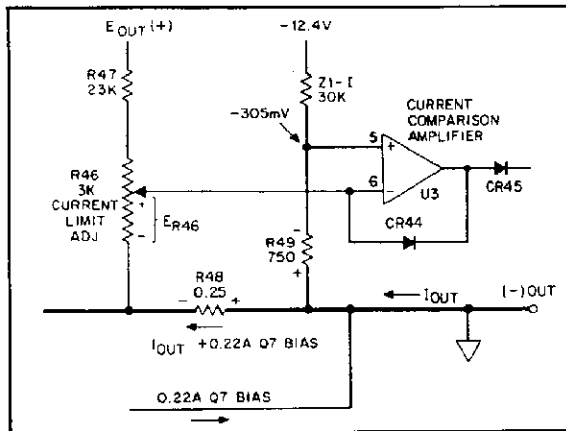

Figure 4-1. Foldback Current Limit Circuit in 6V Supply
4-28 **Current Foldback Circuit.** For this discussion refer to the Figure 7-1 schematic and to Figure 4-1.) The differential input signal to the current comparison amplifier is the algebraic sum of three circuit voltages:
2. The voltage across the lower part of R46 (see Figure 4-1).  $E_{R46}$  is proportional to the regulator output voltage and equals  $440\text{mV}$  when the supply output is 6 volts.